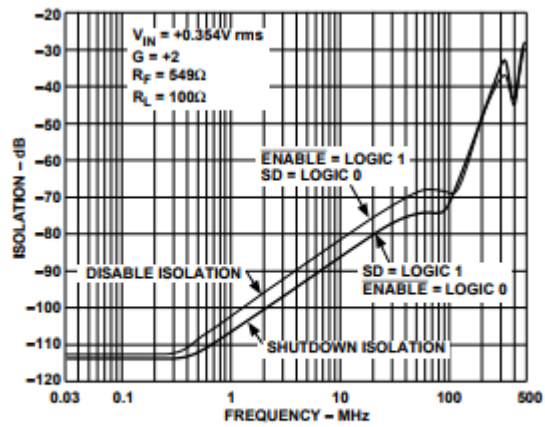

Figure 14. AD8174R Disable and Shutdown Isolation vs. Frequency
- 7AD8174 only. Shutdown (SD) pin is grounded. Mux is disabled, (i.e.,  $\overline{\text{ENABLE}} = \text{Logic 1}$ ) and all inputs are driven simultaneously with  $V_{IN} = 0.354$  V rms. Output is monitored at  $f = 5$  MHz and 30 MHz;  $R_L = 100$  Ω. In this mode, the output impedance of the disabled mux is very high (typ 10 MΩ), and the signal couples across the package; the load impedance and the feedback network determine the crosstalk. For instance, in a closed-loop gain of +1,  $r_{OUT} \approx 10$  MΩ, in a gain of +2 ( $R_F = R_G = 549$  Ω),  $r_{OUT} = 1.1$  kΩ (see Figure 14).
- 8AD8174 only.  $\overline{\text{ENABLE}}$  pin is grounded. Mux is shutdown (i.e., SD = Logic 1), and all inputs are driven simultaneously with  $V_{IN} = 0.354$  V rms. Output is monitored at  $f = 5$  MHz and 30 MHz;  $R_L = 100$  Ω. (see Figure 14). The mux output impedance in shutdown mode is the same as the disabled mux output impedance.